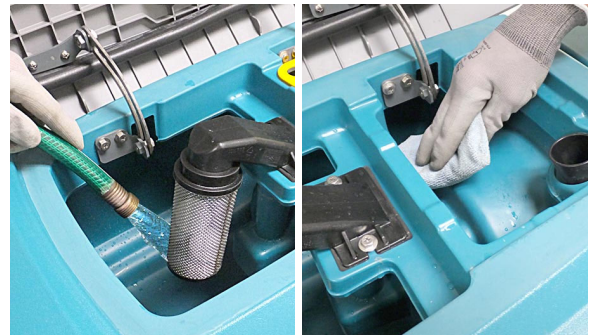

FIG. 51
5. Rinse out the recovery tank with clean water and wipe clean of any soil residue (Figure 51).